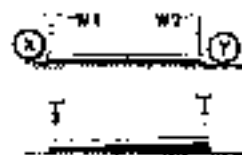

FIGURE B-15
If the corner (Y), Figure B-15, of the screed is raised by control (W2) producing a slight warping in the whole screed surface, this side will gradually come up and level out to the new setting, and the finished mat is thicker on one side as shown.